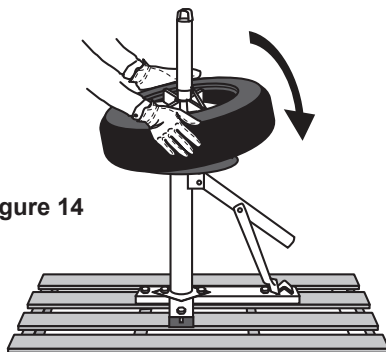

Figure 14
- Set tire on rim and push down on opposite ends of the tire. See Figure 14, below.